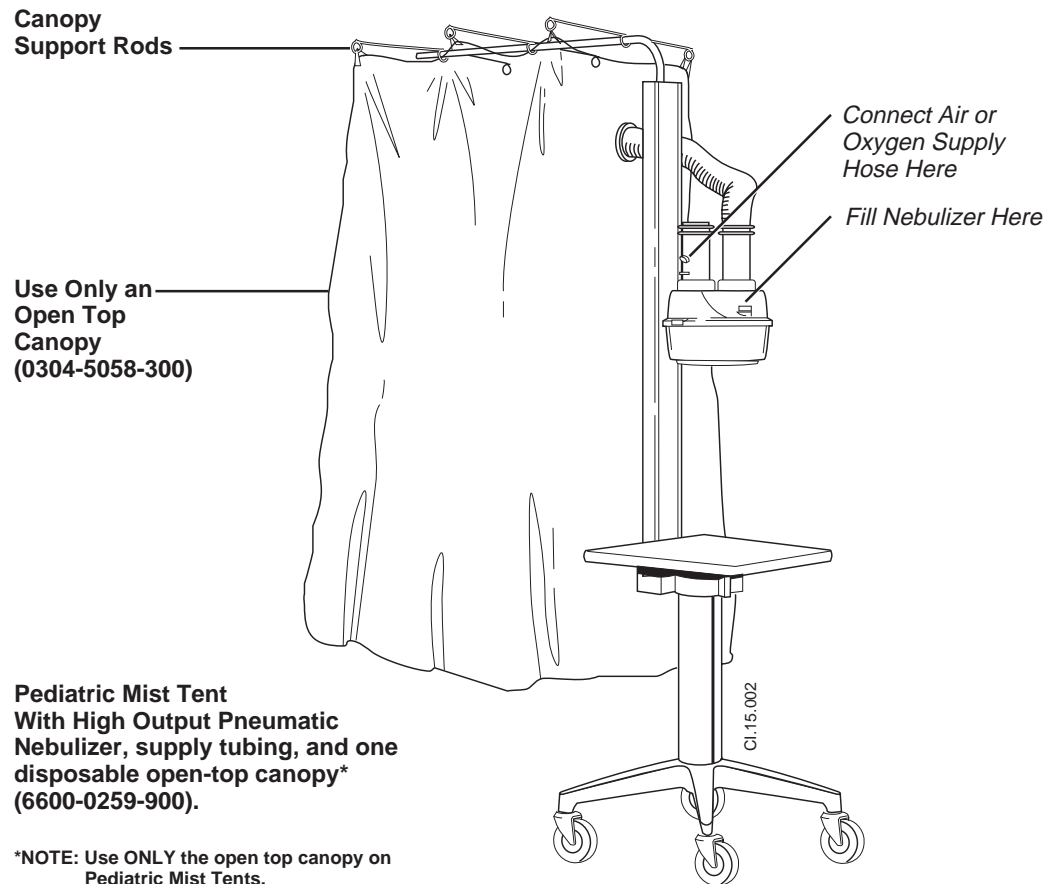

Figure 6
1. Slide the three canopy hanger rods over the curved portion of the crane arm assembly; the crane arm assembly passes through the center loop of each hanger. Do not remove the rubber foot from the end of the rod. Make sure the hanger loops point down as shown in Figure 6.